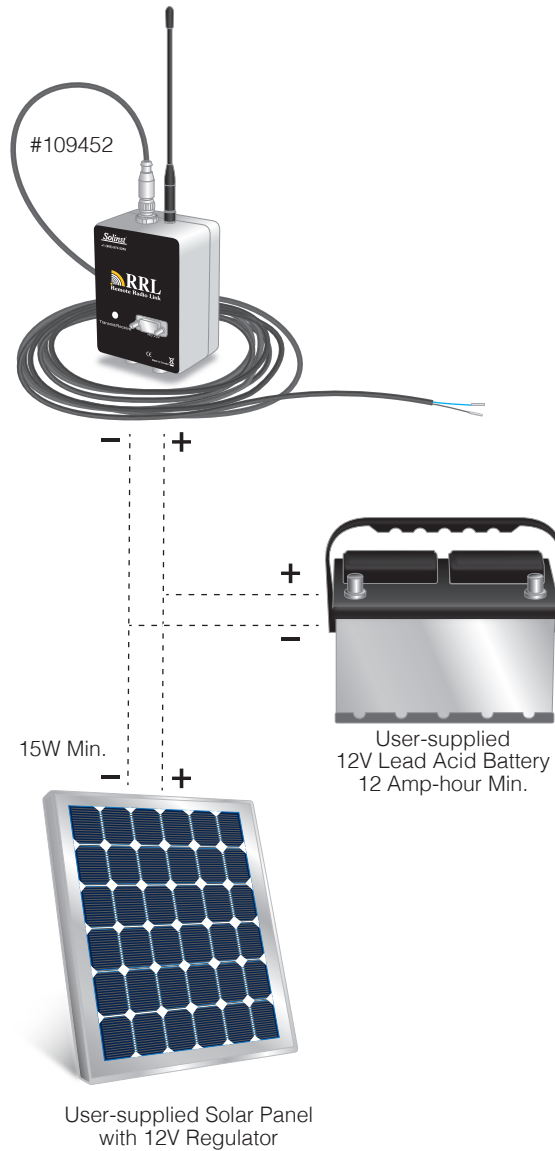

Figure 6-8 External 12V Lead-Acid Battery with Solar Panel Connection
- Using the Solar/12 Volt Cable Assembly (pt# 109452) to connect to an external user-supplied 12V lead-acid battery (minimum 12 Amp-hour rating), trickle charged with a Solar Panel (minimum 15 W with a regulator for 12V). See connection diagram in Figure 6-8.